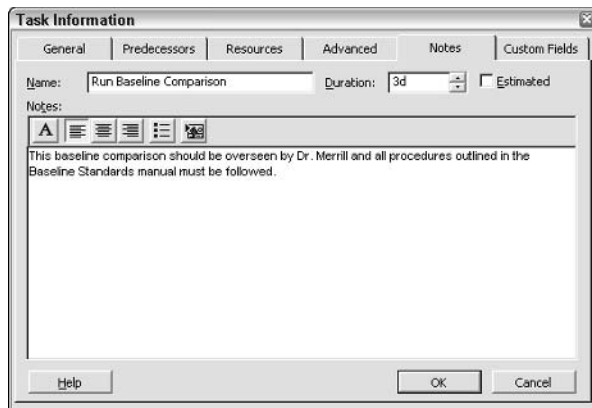

Figure 4-16: The Notes tab provides simple word processing, such as tools for formatting your notes.
2. Click the Notes tab, as shown in Figure 4-16.